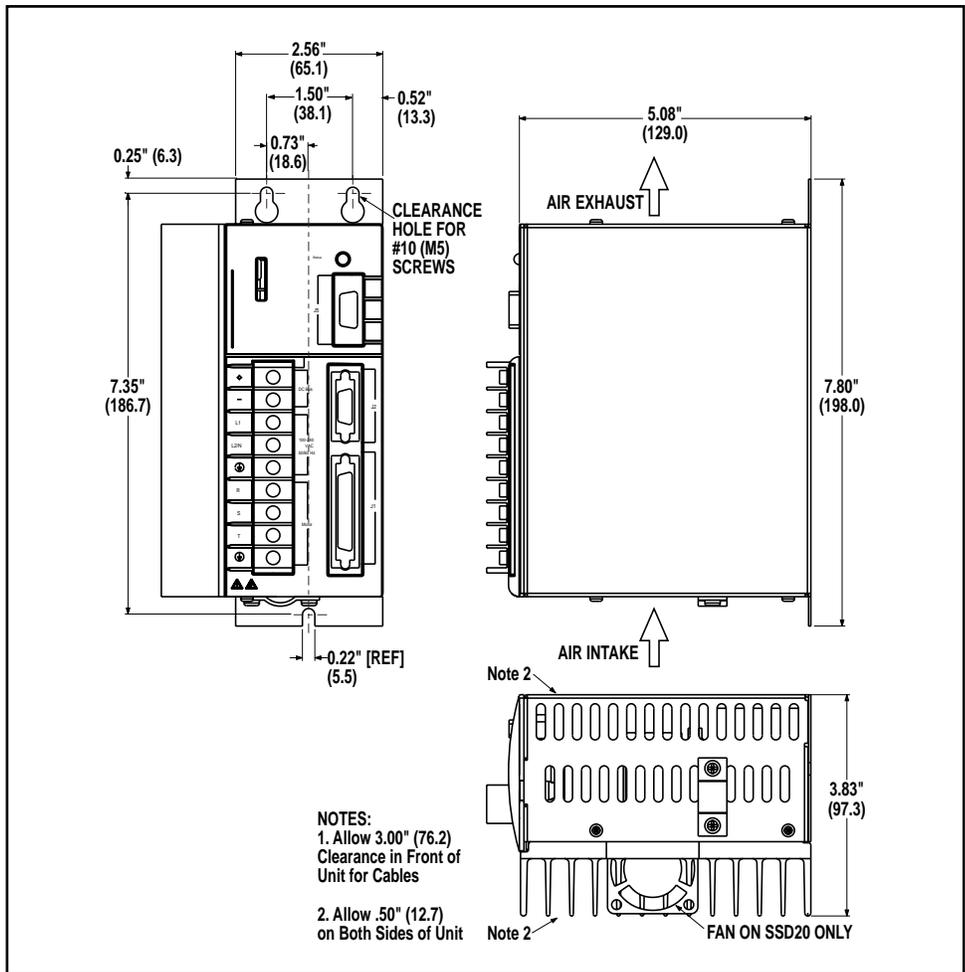

Figure 5.2 SSD 10 and SSD 20 Mounting Dimensions
4. Bolt the unit to the cabinet using the mounting slots in the drive. Mounting dimensions are shown in Figure 5.2. The recommended size of mounting hardware is: